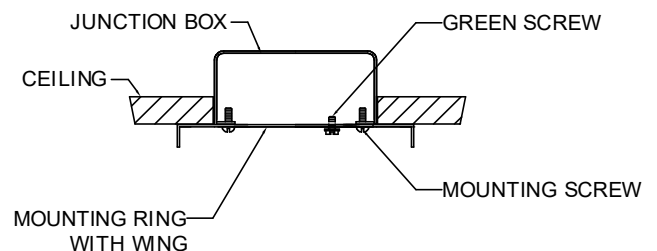

FIGURE-01
1. Attach the mounting ring with wing to the junction box (The green screw should face the floor). (See FIGURE-01.)